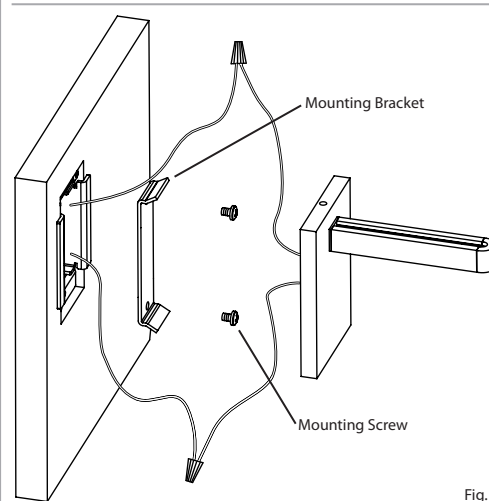

Fig. 5
4. Place the **Reflector Ring** on the **Cylinder Light Engine** and adjust to the desired angle (Fig. 5).
15. Make appropriate electrical connections using wire nuts: Connect one of the **Power Feed** wires to one of the **Transformer** output wires. Connect the other Power Feed wire to the second Transformer output wire. Carefully place connections in the Minibox (Fig. 5).
16. Attach **Mounting Bracket** to Minibox with two **Mounting Screws** (Fig. 5).